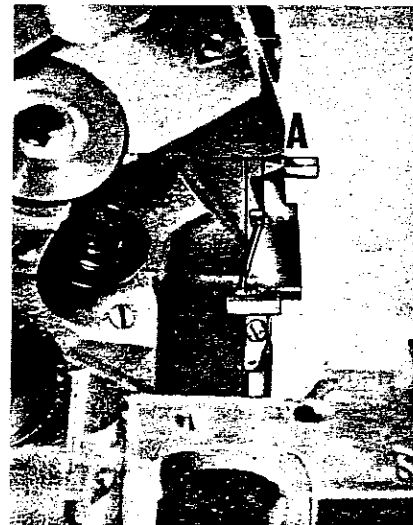

fig. 5
- Place timing gauge S.1665.00 on milled surface of base as shown in fig. 5; shift lever C and turn looper (which has been set in place but not locked) until correct angle is obtained.